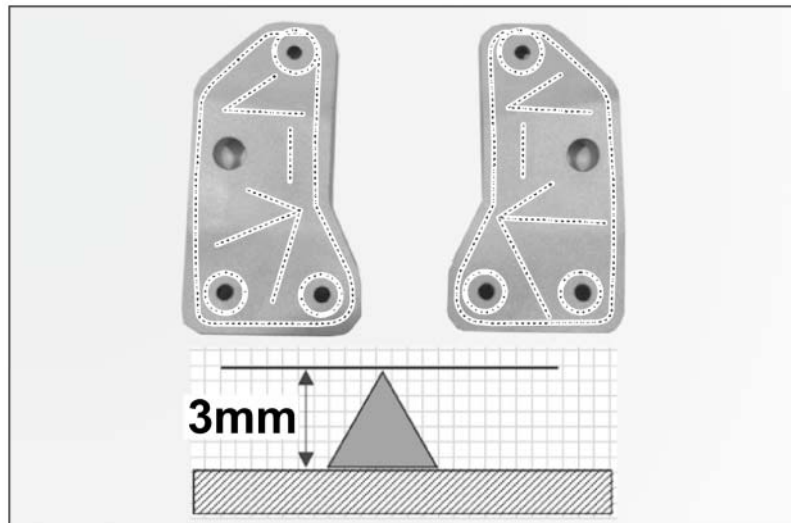

Figure 50
12. – Clean the adhesive surfaces (underside) on the stiffeners with isopropanol. Apply a triangular adhesive bead 3 mm/ 0.118 in high according to the adhesive pattern shown above \Rightarrow Figure 50.